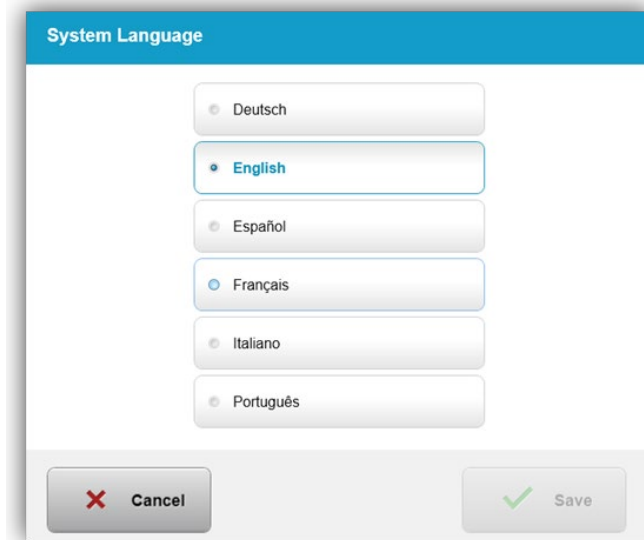

Figure 3-53. Edit System Language
- Select the desired language from the menu as shown in Figure 3-53.